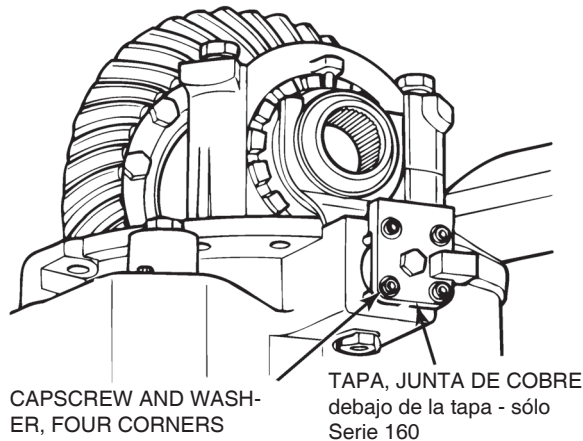

Figure 6.14
- B. Remove the four capscrews and washers that hold the cylinder cover. Remove the cover. On the 160 Series differentials, remove the copper gasket. Figure 6.14.